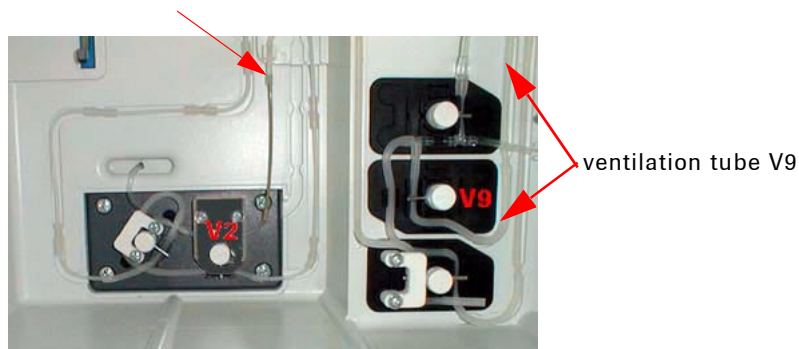

Fig. 17
- Check the bottle compartment's back wall to make sure that the air mixture tube (valve V2) and the ventilation tube (valve V9) are in the guides (see Fig. 17).